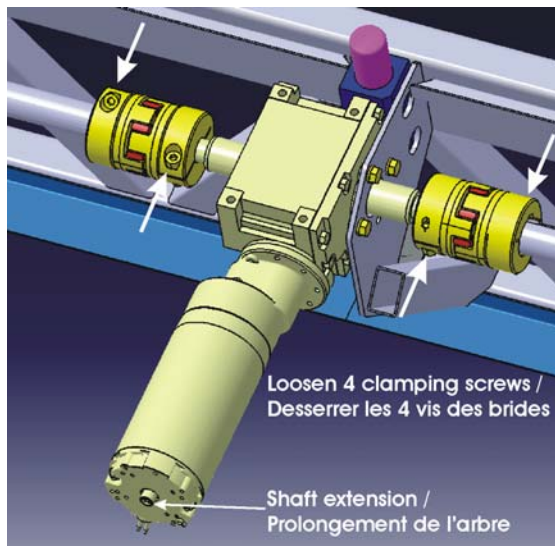

FIGURE 1
- a. Loosen the clamping screws on each clamping hubs (figure 1). If needed, rotate the motor shaft extension to gain access to the clamping screws.